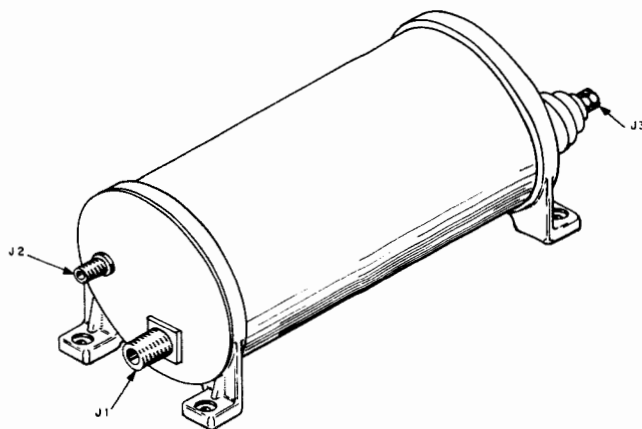

Figure 1-1. Semi-Automatic Antenna Coupler SC-905C, Connectors
1.5.3 Installation Layout. The Semi-Automatic Antenna Coupler may be located up to 300 feet from its associated system and still retain its effective remote antenna tuning capabilities. The unit should be mounted directly below the antenna such that the coupler antenna terminal is no farther than 3 inches from the antenna connector. The coupler should be connected to the antenna by means of a strand of heavy duty wire. RF connection should be made at J2 (see figure 1-1).